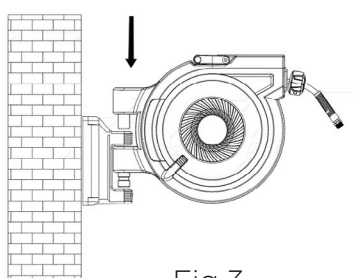
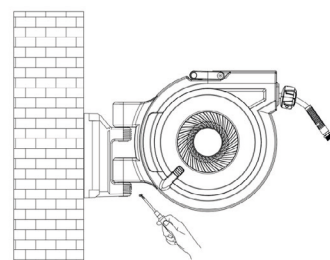

Fig 3
Fig 4
5. Connect the reel to the mounting bracket.(Fig.3)(Fig.4)